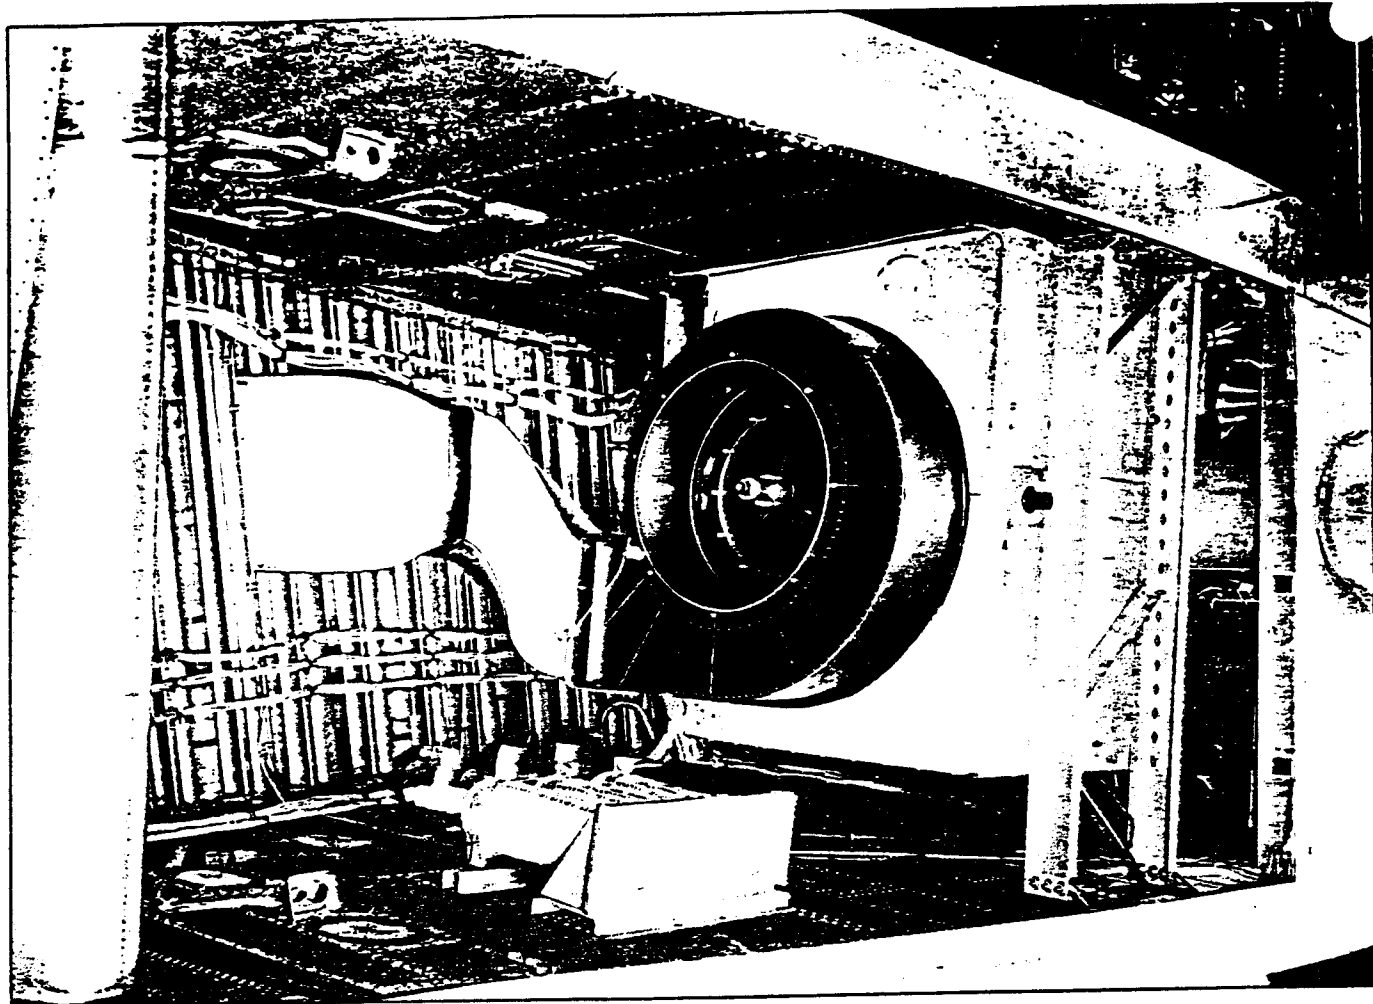

Figure 40. Auxiliary Power Unit - Installed
(3) **INSTALLATION.** (See figure 40.)- Reverse the removal procedure described in paragraph 7 c (2).